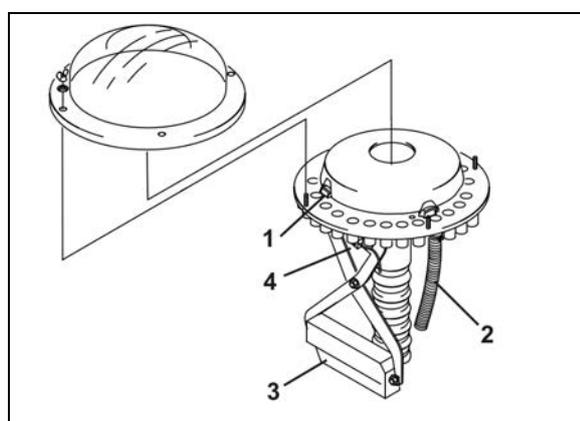

Fig. 65
- the tramline control system on the distributor head uses sliders (Fig. 65/1) to block the seed feeding lines to the seed lines (Fig. 65/2) of the tramline coulters
The seed supply to the tramline coulters is interrupted as soon as the electric motor (Fig. 65/3) closes the appropriate seed tubes (Fig. 65/2) in the distributor head.
A sensor (Fig. 65/4) checks whether the sliders (Fig. 65/1), which open and close the seed line tubes (Fig. 65/2), are working properly.